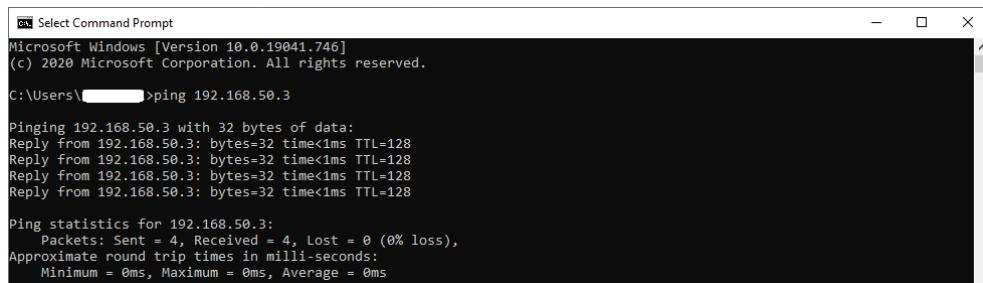

Fig. 11.6: Command prompt window with the command for testing the communication.
3. The user can test if the communication between the PC and the A5203(B)/DT5203 is established by opening the "Command Prompt" and typing the same command as in **Fig. 11.6**. If the communication is correctly established, the output message should be similar to that in **Fig. 11.6**.